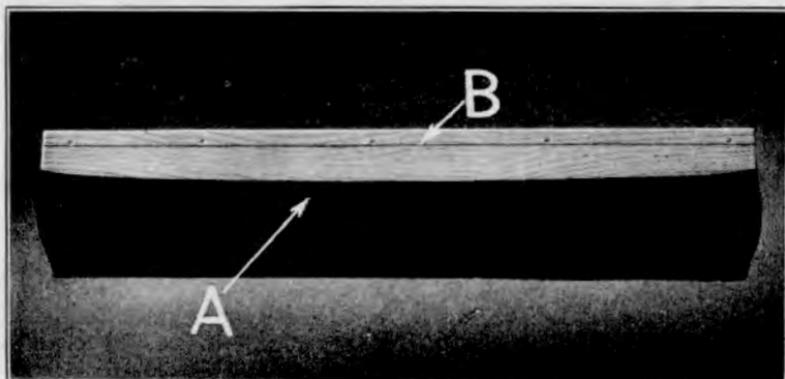

Fig. 573
- 1270 Withdraw tacks from edge of fabric on spacer board where spacer block was withdrawn and fold the fabric back as shown at "A" Fig. 573. Mark off a section 2" in width extending the full length of the spacer board as shown at "B," and saw it off. If an owner is unusually stout and requires a larger amount of space between steering wheel and seat back, an additional 2" can be cut from the spacer board.
- 1273 After cutting down the width of the spacer board, drill five new holes in spacer board for the five wood screws which hold block to board. Smooth out the fabric on the board (see "A" Fig. 573) and tack it securely to spacer board. Any excess fabric can be cut off with a pair of scissors or a sharp knife.